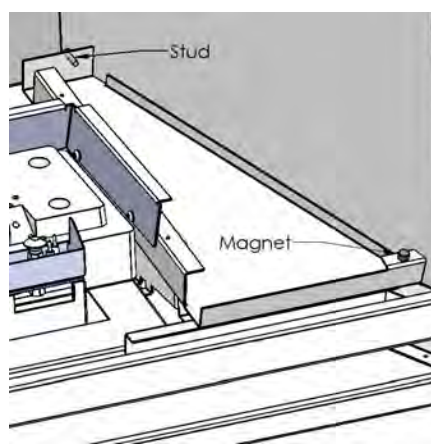
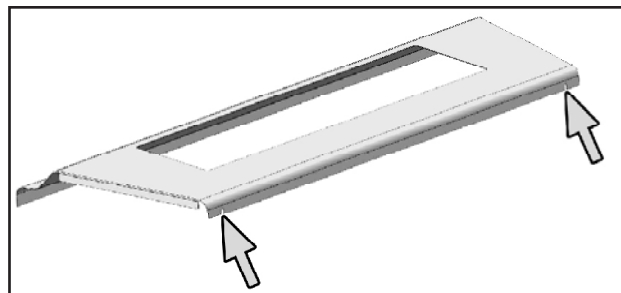

Figure 48: Permanent Magnet on Right Burner Cover Support.
Figure 49: Slots in Back of Burner Cover.
10. Install the Glass Burner Cover Support Kit to the Right Burner Support using three (3) T-20 Torx screws supplied. Install the Support Kit to the Left Burner Cover Support as you've done on the right side.
11. Place one of the Permanent Magnets provided on the front edge of the Burner Cover Supports as shown in Figure 48.
12. The Burner Cover has two (2) slots, one the either side of the rear flange (refer to Figure 49). These slots fit over the two (2) studs in the burner cover support (refer to Figure 48) to keep it in place.